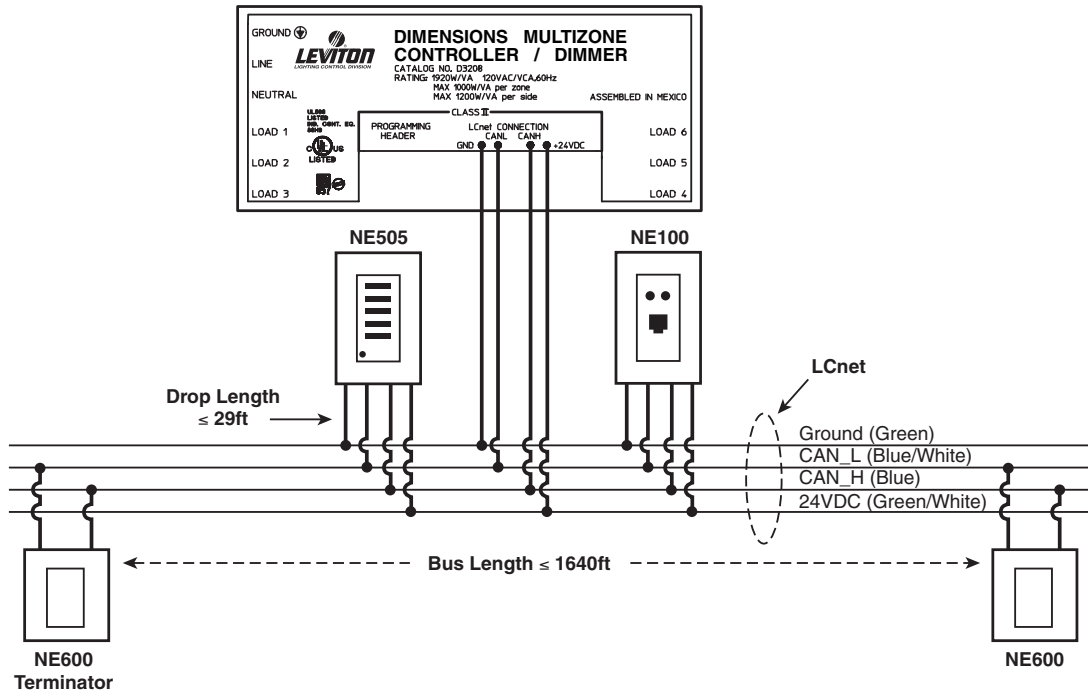

Figure 4-2: Basic LCnet Wiring Diagram
- Make sure the LCnet and all its taps (blue and blue-white twisted pair) are wired using CAT5 twisted pair wire and are wired according to Figure 4-2.